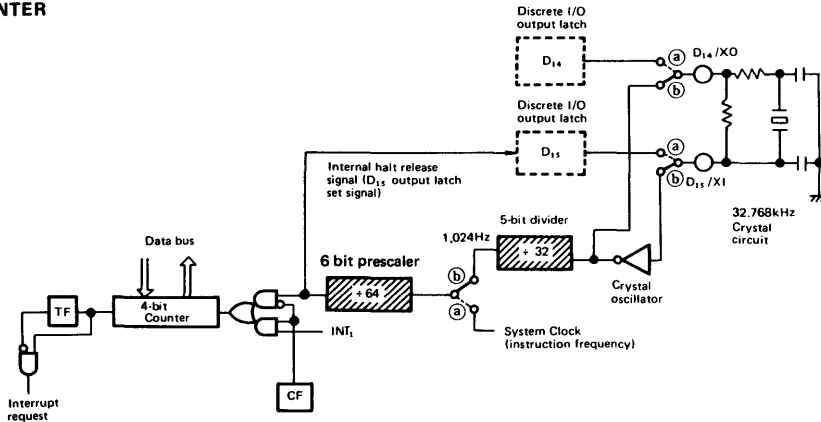

Figure 21 Timer/Counter Block Diagram
Timer/Counter Block Diagram is shown in Figure 21. 5-bit divider divides the crystal oscillation (32.768kHz) by 32 and generates clocks of 1,024Hz in the crystal oscillation mode. It does not stop in the halt state. Prescaler divides the system clock (instruction frequency) or 1,024Hz clock by 64 and generates overflow output pulse of "Instruction frequency/64Hz" or 16Hz. In the crystal oscillation mode, it does not stop during halt state. The input of the 4-bit counter is overflow output pulse of the prescaler or a pulse of INT1 terminal. Input selection is determined by CF state. Data can be exchanged between the counter and bus by LTI, LTA or LAT instruction. TF is a flip-flop which masks the interrupt of timer/counter.
- Note 2) In this case, the part marked with  in Figure 21 Timer/Counter does not stop even in halt state. When using "internal halt mode" among the halt function, internal halt state is generated by resetting the register for internal halt mode (D latch: D15) by an instruction (D15 = "0": internal halt state, D15 = "1": operating state), and all the operation stop. In this case, overflow output pulses from the prescaler work as the signals releasing the internal halt state and set the D15 output latch. Therefore, if an overflow output pulse from the prescaler is generated, internal halt state is released, and the LSI starts to operate. By utilizing this function, intermittent operation is possible, that is, program execution for necessary processing (for example, counting for clock function) starts after every 62.5 msec (16Hz) and the LSI stops after execution of this program by an instruction which makes the LSI into internal halt state. This reduces the time in which the LSI operates, resulting in power consumption in substance.